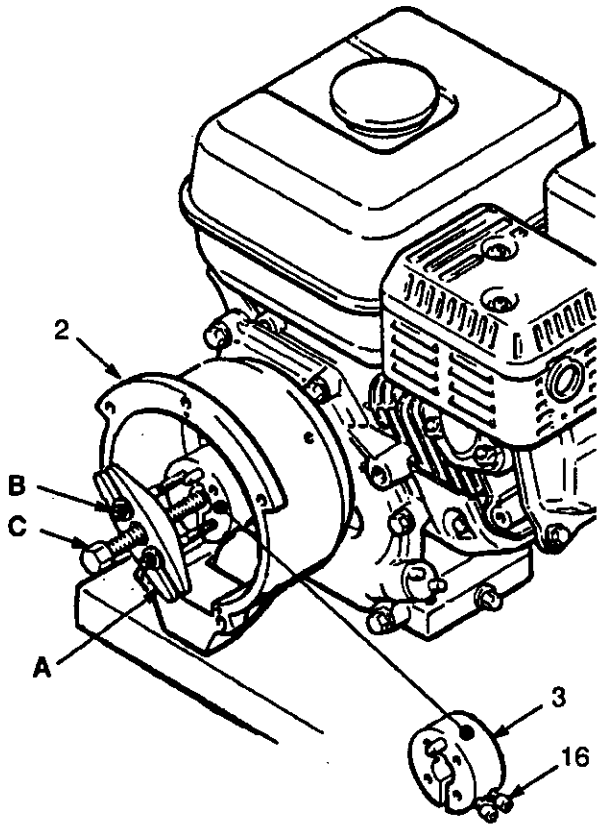

Fig 31-1
**NOTE:** Refer to Fig 31-1.
1. Loosen the two screws (16) on the clamp (3), working through the slot at the bottom of the clutch housing (2).
2. Install two screws (B) of the tool (A) in two of the threaded holes in the clamp (3). Tighten the screws (C) until the clamp comes off.
1. Remove the four capscrews (8) and lockwashers (9) which hold the clutch housing (2) to the engine.
2. Remove the capscrew (15), lockwasher (80) and washer (99) from beneath the mounting plate (D).
3. Remove the engine key (13).
4. Pull off the clutch housing (2).